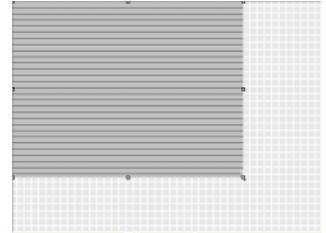

Figure 3a
- 1) Draw a video button and size it according to your design (Figure 3a)